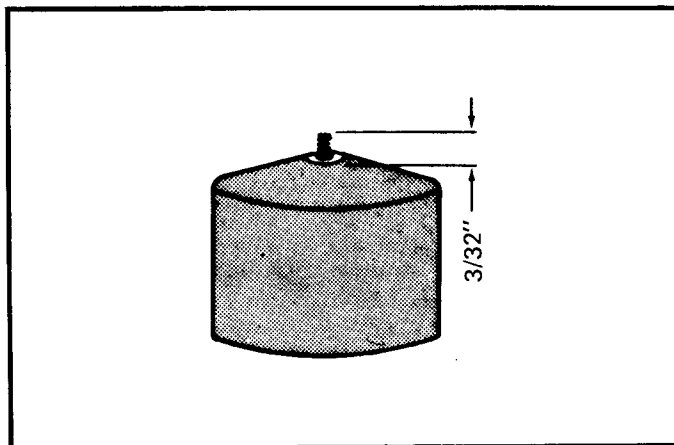

Figure 4.
9. Check that float spring measures approximately $3/32$ " from top of float (not insert) to end of exposed spring. (Figure 4)